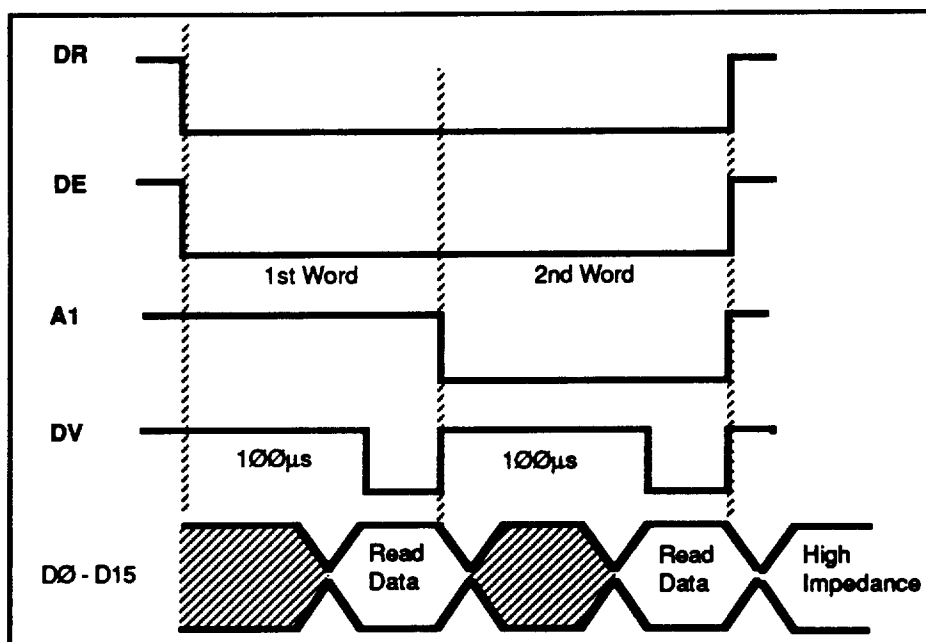

Figure 4-4. Timing—16-Bit Parallel Output (-1 Decoder)
This section explains the process of reading a position in 16-bit segments. Wire and configure your decoder (DIP switches and jumpers) as described in Chapter 2, Getting Started (-1 Decoder 16-Bit Parallel Interface). Use DIP switch S5 to select the binary (OFF) or BCD (ON) output format. To read a position (two two-byte segments—also referred to as a *word*) from the AR23, refer to Figure 4-4 and follow the steps below.